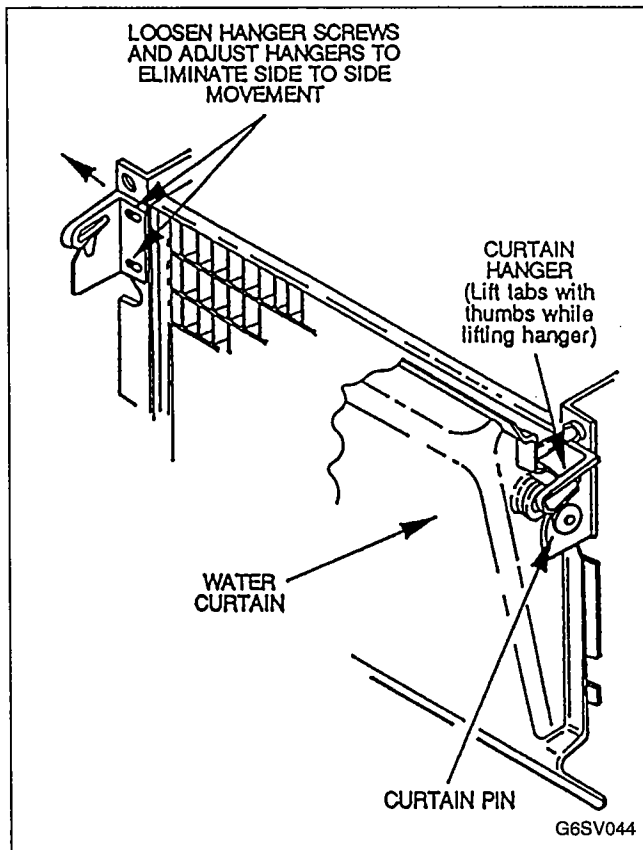

FIGURE 29. WATER CURTAIN CHECK
1. Pull bottom of water curtain (Figure 29) away from evaporator, then release. Curtain should fall back to evaporator.